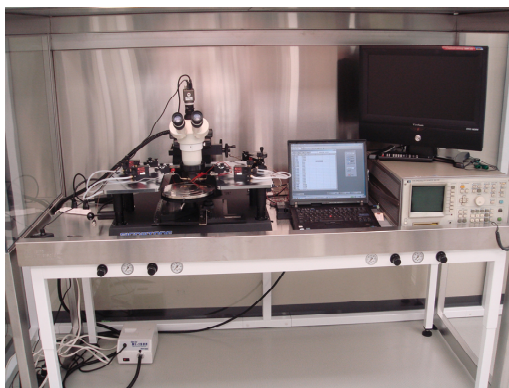

Figure 58. Shown above is the flow-bench lab probe station CfD researchers use to test device wafers.
CfD uses the SMFL, a 10,000 square foot cleanroom space in class 1000, 100, and 10. Using the SMFL’s resources, the Center can fabricate detectors with custom process flows and multiple process variations. The Center’s flow bench and probe stations offer wafer-level testing, even during the fabrication process, allowing mid-process design changes (Figure 58). The probe station accommodates electrical and circuit analysis of both wafers and packaged parts, including low current and radio frequency (RF) probing.